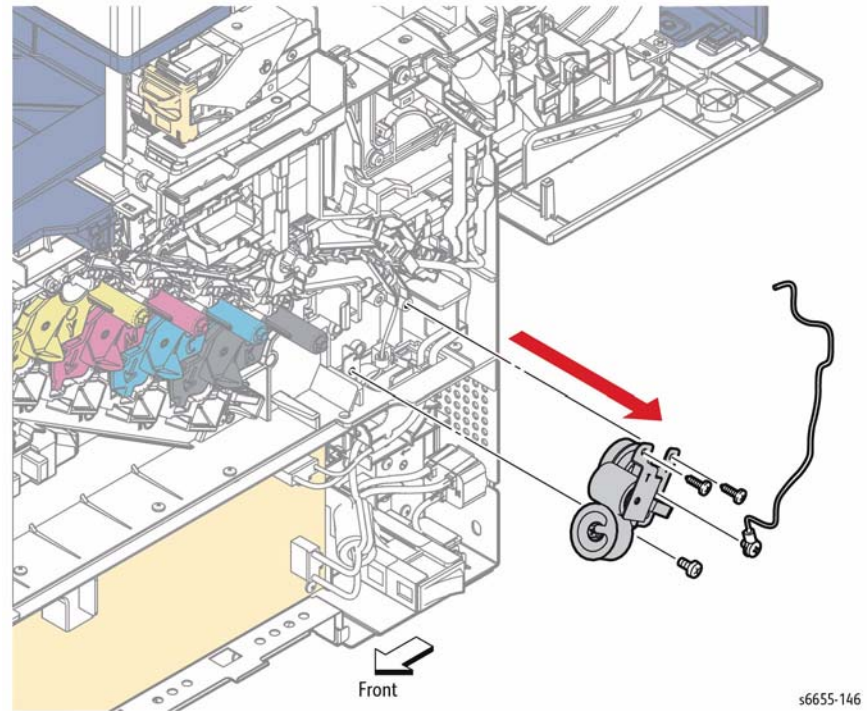

Figure 1 Remove the Waste Drive Assembly
3. Refer to Figure 1 to locate and remove two screws (silver, tapping, 8 mm) and two screws (silver, 6 mm) (silver, M4, 6 mm) that attach the Waste Drive Assembly to the printer and ground wire, then remove the Waste Drive Assembly.